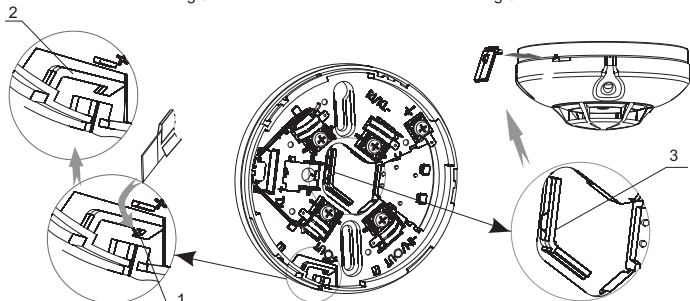

Fig.4
4. To lock the detector head to the base separate the key from the base (Fig. 4, position 3) and keep it in a safe place, cut the technological edge (Fig. 4, position 1) of the click (Fig. 4, position 2) and complete the instructions described above.
5. To unlock the detector head insert the key into the slot, according to Fig.4, rotate the fire detector anticlockwise until rest, take the key out and continue rotating to release the head.